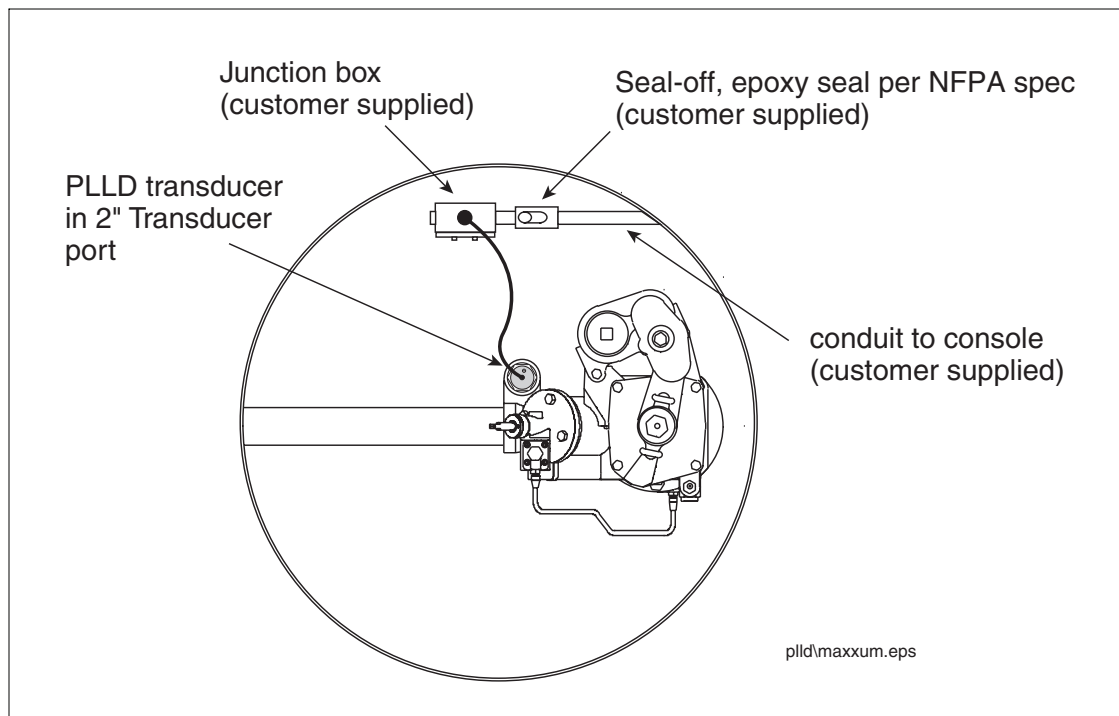

Figure 11. Example PLLD installation in a Red Jacket Maxxum Big-Flo
3. Remove the cap from the 2-inch Transducer port next to the 3-inch discharge port. Thread the PLLD transducer into the transducer port (see Figure 11).